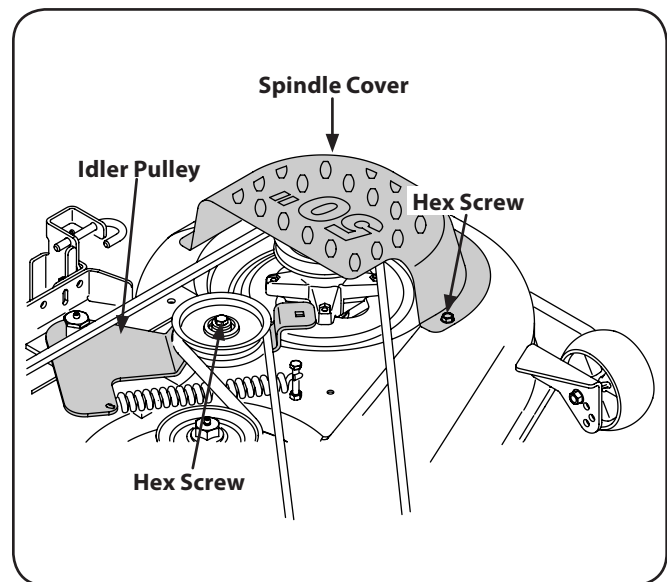

Figure 7-4
- Remove the spindle covers by removing the self-tapping screws that fasten them to the deck. See to Fig. 7-4.
- Loosen the hexscrew fastening the idler pulley to the idler arm as necessary to slide the belt from between the idler pulley and idler arm. See Fig. 7-4.